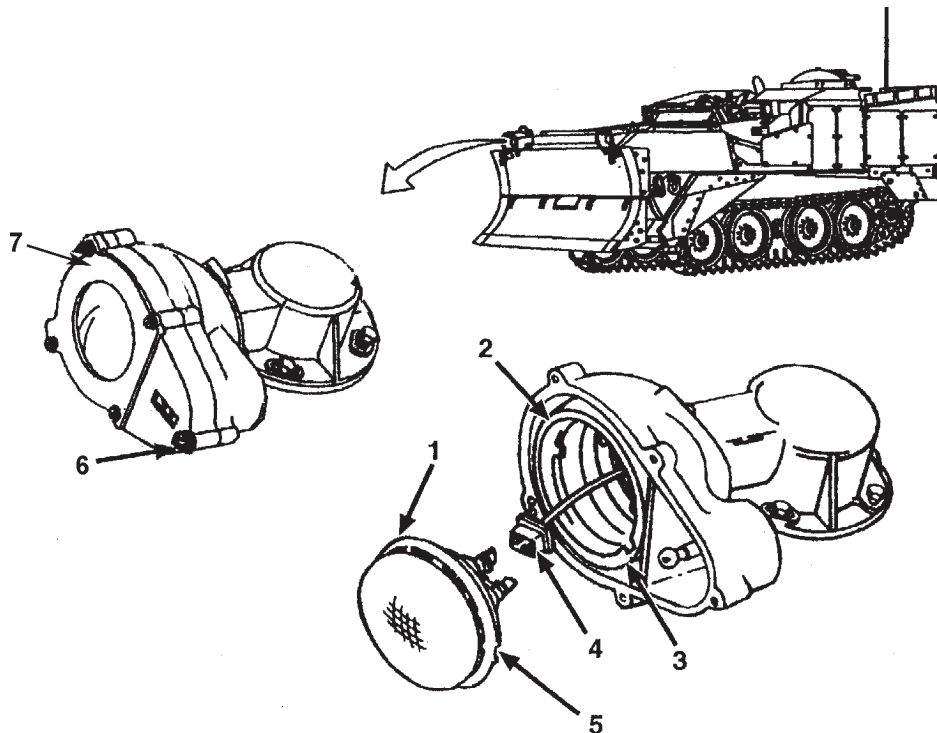

Figure 10. Headlight Incandescent Lamp.
(Item 14, WP 0048 00, Figure 10) (1)
Rubber round section (Item 15, WP 0048 00, Figure 10)
Steps 1 through 3 below apply to Figure 10.
1. Remove five screws (item 6) from headlight cover (item 7) and remove cover.
2. Roll front edge of headlight mount (figure 10, item 2) toward back of lamp (figure 10, item 1).
3. Pull out lamp (item 1) from mount (item 2). Pull off connector plug (item 4) from lamp (item 1).
Steps 1 through 4 apply to Figure 10.
Lockwasher (Item 4, WP 0048 00, Figure 10)
Gasket (Item 26, WP 0048 00, Figure 10)
Lockwasher (Item 24, WP 0048 00, Figure 10)